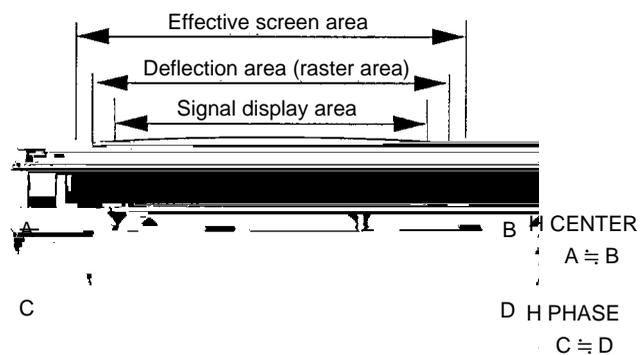

Fig. 1-6
7. Adjust the H CENTER data so that the raster is position just in the center of the screen (so that  $A \cong B$ ). (Fig. 1-6)